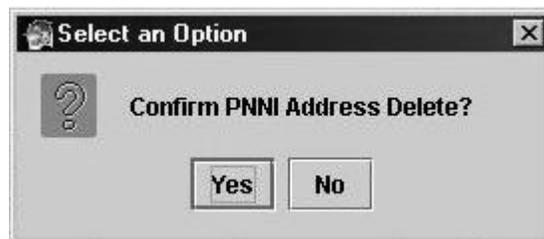

Figure 8-9: Confirm Delete Exterior IISP Address Dialog
2. Click **DELETE**. The Select an Option dialog displays. See Figure 8-9.